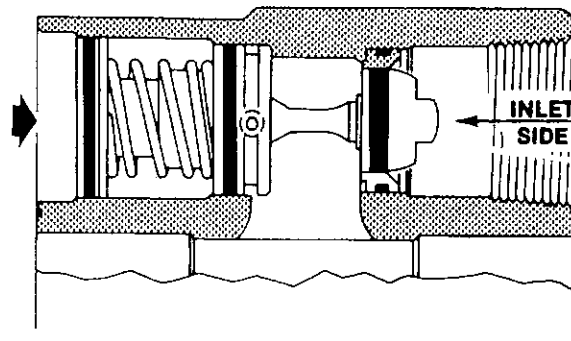

Figure 6.14
6. Insert the sequencing valve assembly into the port in the air motor casing in position shown in Figure 6.14. Push the piston forward against spring pressure and seat seal support assembly in the casing to a point where the groove in the seal support assembly becomes visible in the seal support screw holes. Be sure to align the piston correctly in the support assembly and apply even pressure so as not to damage the piston